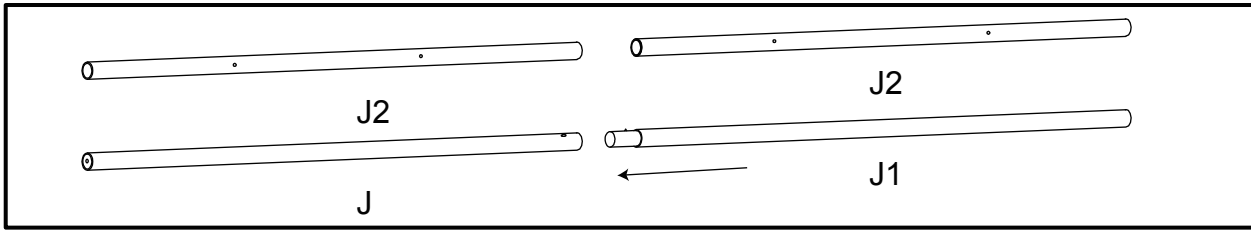

Fig 17
- 11.1. Connect the Left Cloth-inserted Pipe (J) to the Right Cloth-inserted Pipe (J1). See Fig17.